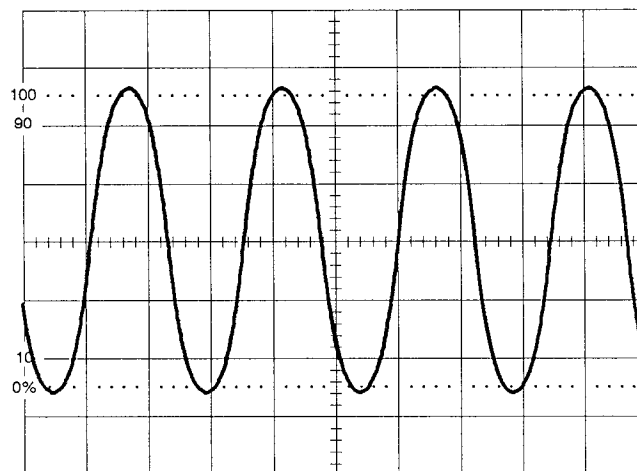

Figure 5–2. 2–5 ns Timing.
c. ADJUST – 2 NS TIMING (C807, C814) for 1 cycle per each 2.5 divisions over the center 8 divisions. See Figure 5–2. Use the vertical transition of the sine wave instead of the peaks for better accuracy.